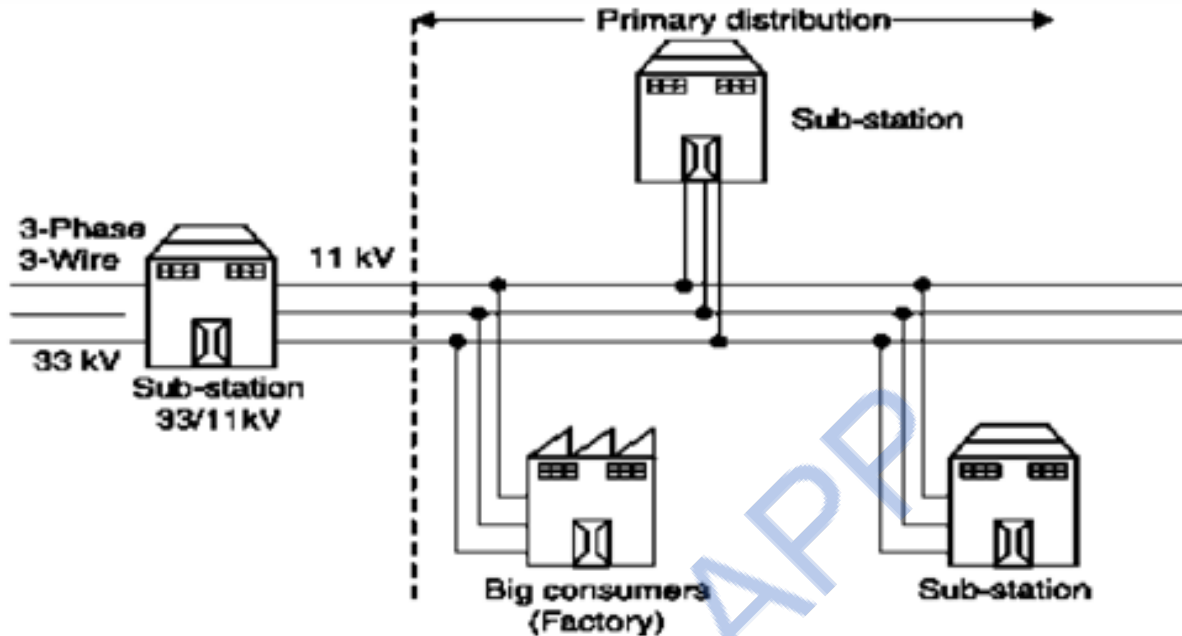

Figure 5.6: Primary distribution system
- Fig 5.6 shows a typical secondary distribution system.